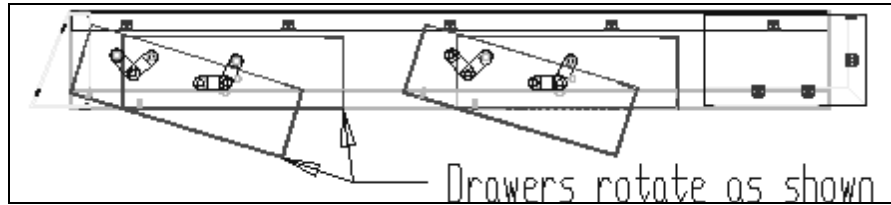

Figure 1 Side view of 048 console
- ✓ Use the (3) U-bolts, 5/16 washers, and locknuts provided to fasten the rear sliding assembly (now slid partially inside main body) to the rollbar.
6. Mount the drawers into the openings in the main body assembly. Be sure that the links inside the console are "resting" so that the holes line up with the holes in the body. It is important to place a piece of cardboard under the drawer to prevent scratching during installation. If the drawer is pushed up into the opening in the main body assembly in the approximate orientation of the open drawer in Figure 1, the holes in the body, link, and drawer will line up and (4) ¼-20x1/2" socket head cap screws can be installed using the 3/16" Allen wrench. Note, only fasten each drawer with the two links toward the front of the vehicle, **DO NOT** fasten the links toward the rear of the vehicle.
7. Mount stereo, CB, and/or speaker in drawer(s). Be sure to secure wires to side holes on the rear side of the drawer with (1) zip tie per drawer(provided) to ensure wires will not snag onto anything.
8. Attach the stereo to the drawer using the stereo support strap and (1) 10-32 flat washer and (1) 10-32 locknut.
9. Attach supply wires to stereo and/or CB wires. Route the wires by attaching them to the studs on the top of the console with (3) zip ties provided and (3) 10-32 locknuts. Use the remaining (3) zip ties to bundle wires together. **Warning!** Wires must be routed so that they do not interfere with the opening of the drawer or the operation of the cam. Be sure wires will not be pinched. Leave enough slack in the wires so that the drawers will be able to move freely. Refer to Figure 1 and note how the drawers move relative to the body.
10. Install the footman loop, you removed from the front windshield, into the nuts that have been pressed into the main body assembly just behind the rear drawer opening. Use the (2) 10-32x3/8 flat slotted screws and the screwdriver for installation. This footman loop will act as an anchor point for installing and securing a "Bikini" top. (If you were unable to remove the footman loop from the windshield and require it for a "Bikini" top footman loops can be purchased at most hardware stores.)
11. Notice that the  $\frac{1}{2}$ " holes in the side of the main body will line up with the holes in the links when the drawer is in the open position and the links are resting against the studs in the console body, see Figure 1. Use (4)  $\frac{1}{4}$ -20x1/2 socket head cap screws provided to fasten the link to the drawer. Tighten the screw all the way and then back it off  $\frac{3}{8}$  to  $\frac{1}{2}$  of a turn. Follow this procedure until the drawer is fastened and in place. **Warning!** The nuts inserted in the drawers are self-locking. The socket head cap screws will be difficult to screw in because of this feature. Do not cross thread screws.
14. Insert (8)  $\frac{1}{2}$ " hole plugs in holes on main body.